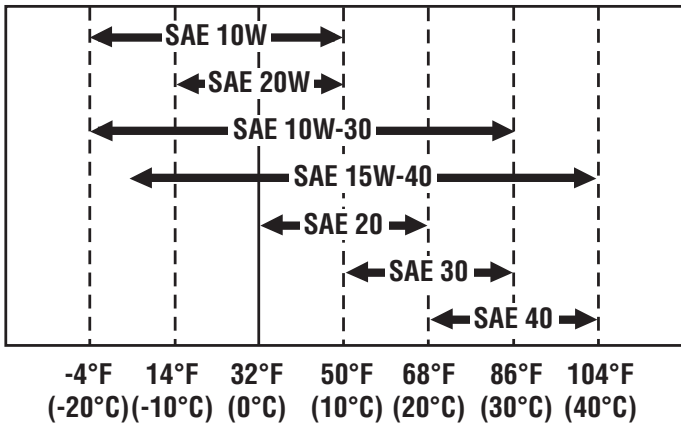

Figure 12. SAE Service Grade Viscosity Chart.
4. Fully reinsert dipstick. The oil level should be between the upper and the lower lines on the dipstick. If necessary add engine oil. See Figure 12 for specific oil recommendations.